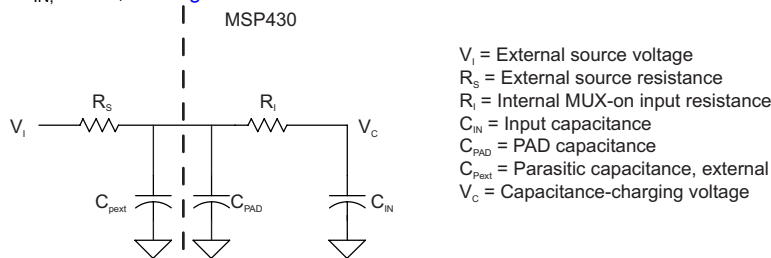

Figure 5-16. eCOMP Input Circuit
(1) For details on the eCOMP C_{IN}, model, see Figure 5-16.
(1) For details on the eCOMP C_{IN} model, see Figure 5-16.